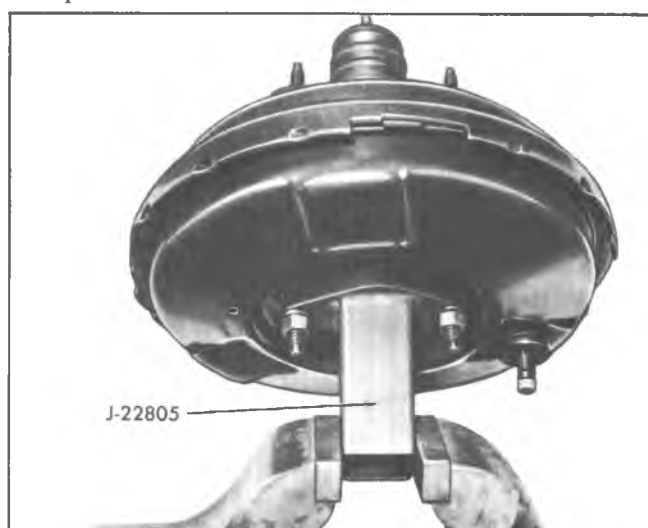

Fig. 2A--Holding Power Cylinder Using Tool J-22805
3. Attach base of Tool J-22805 to front housing with nuts and washers and draw down tight to eliminate bending or damage to studs. Clamp base in bench vise with power section up (fig. 2A).